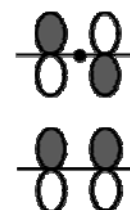

Fig. 2: Illustration of π molecular orbitals of ethylene. Solid circle represents a node.
- c) Draw the highest occupied molecular orbital (HOMO) and the lowest unoccupied molecular orbital (LUMO) of 1,3-butadiene on the basis of the example for ethylene shown in Fig. 2, i.e., draw four $2p_z$ orbitals perpendicular to a horizontal line and indicate the sign for each orbital in black and white. Further, represent nodes by using solid circles. Note that you do not need to consider the differences in the contribution of each $2p_z$ orbital to the molecular orbitals.